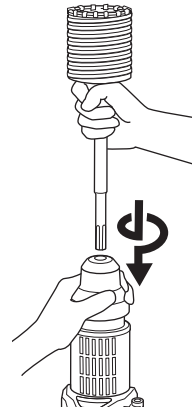

Fig. 18
- (2) Mount the core bit shank to the Rotary Hammer. (Fig. 18)